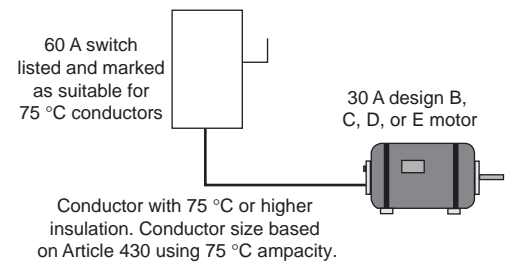

Figure 6: Conductors for Specific Motor Applications
- Conductors for specific motor applications (see Figure 6). This permission is specific to Design B, C, D, or E motors because those motors are temperature evaluated with conductors based on 75 °C ampacity according to NEMA MG-2 (Safety Standard for Construction and Guide for Selection, Installation, and Use of Electric Motors and Generators).